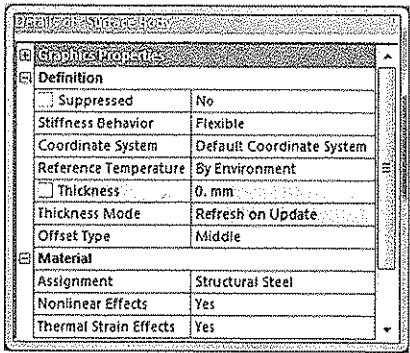

Figure 8-48 The Details of "Surface Body" window
- 4. In the **Details of "Surface Body"** window, expand the **Definition** node, if it is not already expanded, as shown in Figure 8-48.